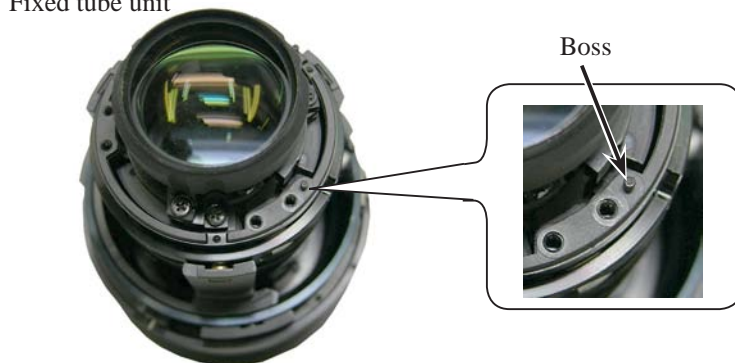

Fig.1
- ① Assemble the inner-fixed tube unit and the 1st lens-G sliding tube unit at the position shown in "Fig.1".
- ① Fit position of the focus sliding tube and lens body as shown in "Fig.1", and align the three convex portions of the focus sliding tube with the three grooves of the cam ring, then assemble them.
- ① Rotate the segment gear ring of the zoom ring unit in the direction of the arrow all the way to the end.
- ② Fit the boss of the fixed tube unit in the boss hole of the zoom ring unit, and assemble them. (Fig.1)